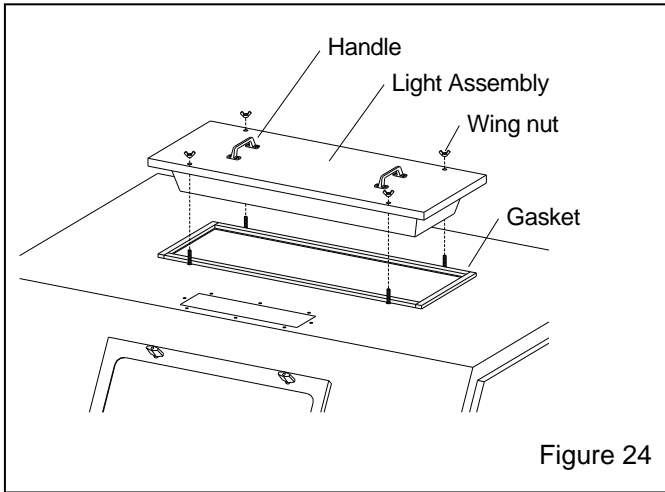

Figure 24
8.6.2.1 Remove the four wing nuts holding the light fixture to the cabinet, and use the handles to lift the fixture off the cabinet, as shown in Figure 24.
8.6.2.3 Lay a section of strip gasket next to the opening, and cut to length, allowing 3/4" overlap on each end. Peel a short section of adhesive backing and adhere the strip gasket to the top edge of the light opening, as shown in Figure 24. Press the gasket tightly to bond. Repeat the process for each side, compressing the ends to seal.